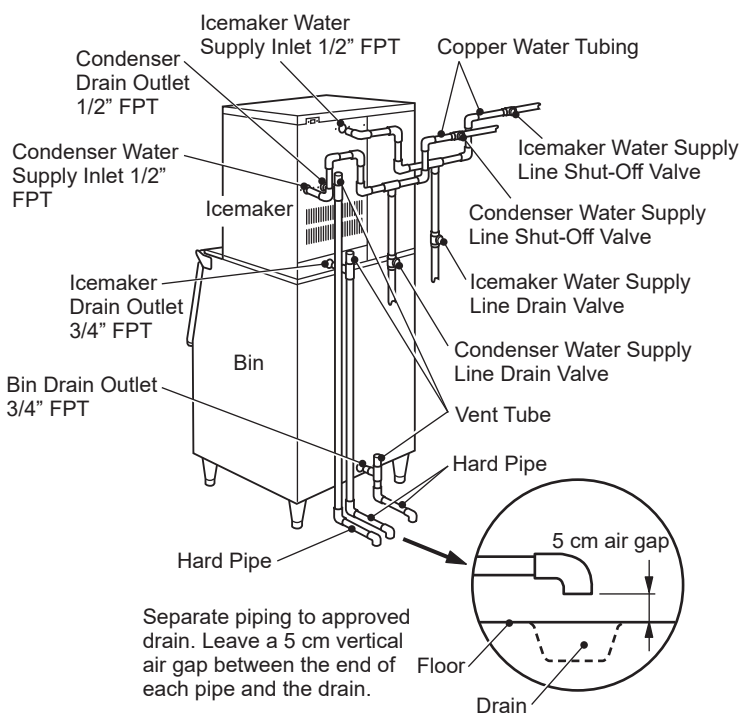

Fig. 7
- * A vented tee connection is required for proper drain flow. See Fig. 7.
- * The icemaker drain line must be run separately from the storage bin/dispenser unit drain line. See Fig. 7.